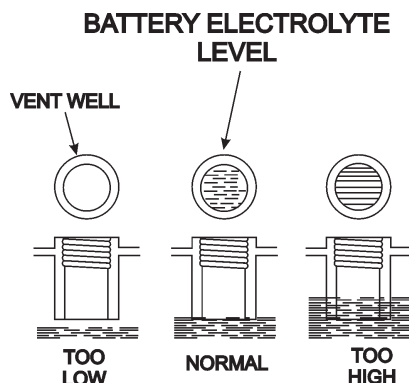

Figure 39. Battery Electrolyte Levels
- Check the battery regularly and make sure that each electrolyte level is to the bottom of the vent well (Figure 39). If necessary add only distilled water in a well-ventilated area.